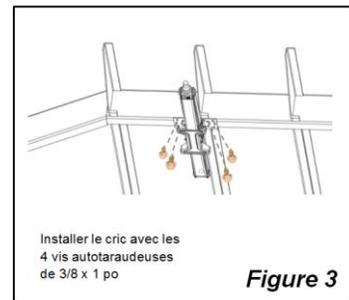

Figure 3
- Reposition the jack and install the 4 self-tapping 3/8" x 1" screws, as shown in **Figure 3**. Turn screws until they seat and are tight.
8. Repositionner le cric et installer les quatre vis autotaraudeuses de 3/8 x 1 po, comme le montre la **Figure 3**. Bien serrer les vis.